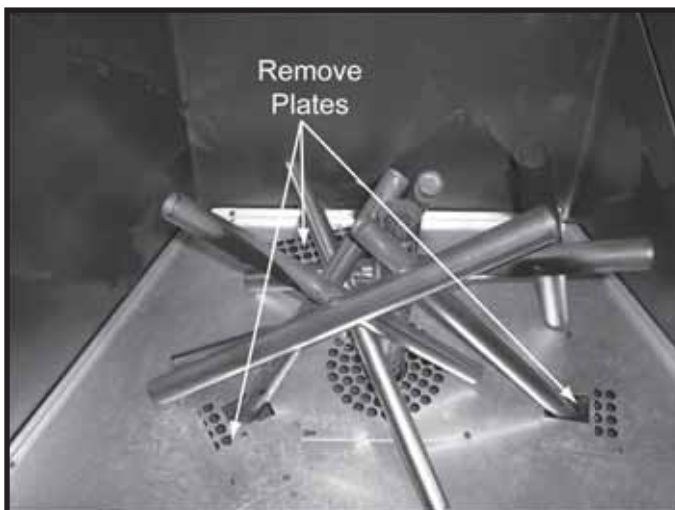

Figure 14.18 Remove Three Plates
- Remove three cover plates by removing two screws from each plate. See Figure 14.18.